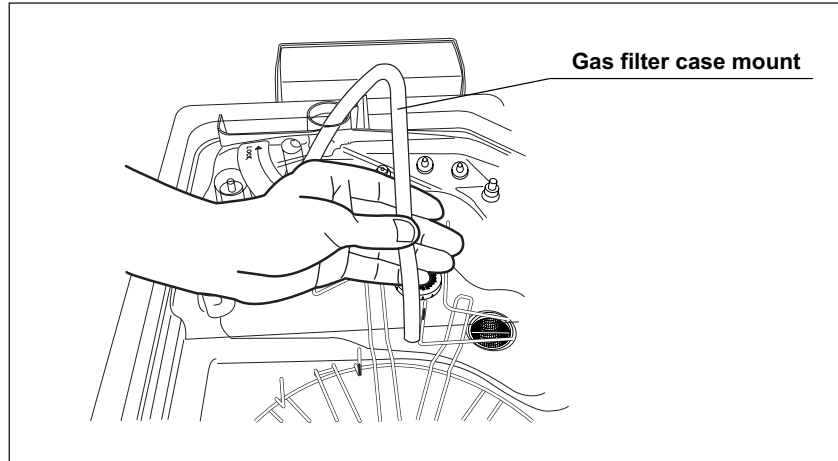

Figure 7.38
8. Close the lid while taking the sampling tube out of the gas filter case mount (see Figure 7.38).